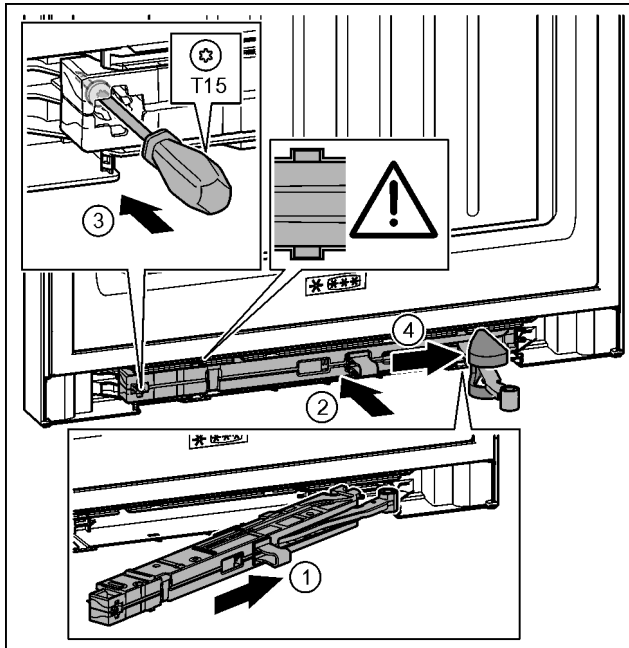

Fig. 39
- ▶ Slide the soft stop mechanism on the bearing bracket side at an angle into the slot as far as the limit stop. Fig. 39 (1)
- ▶ Slide the soft stop mechanism fully into the slot. Fig. 39 (2)
- ▶ Tighten the screw with the T15 screwdriver. Fig. 39 (3)
- ▶ Push the cover over the hinge. Fig. 39 (4)